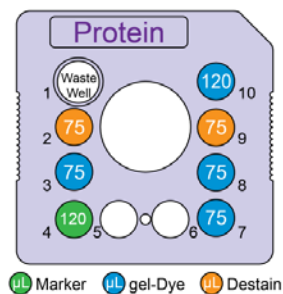
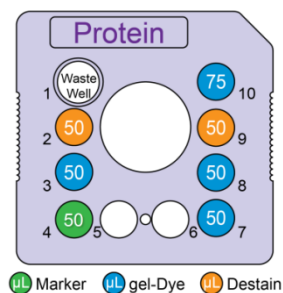

Figure 1. High-Throughput (HT)
Figure 2. Low-Throughput (LT)
- Using a reverse pipetting technique, add Destain Solution to chip wells 2 and 9 as shown in Figure 1 (HT) or Figure 2 (LT).
- Using a reverse pipetting technique, add Gel-Dye Solution from spin filter tube to chip wells 3, 7, 8, and 10 as shown in Figure 1 (HT) or Figure 2 (LT). Store any unused Gel-Dye Solution in the dark at 2-8°C for up to three weeks.
- Using a reverse pipetting technique, add 120 µL (HT) or 50 µL (LT) of Marker solution (green cap ●) to chip well 4 as shown in Figure 1 (HT) or Figure 2 (LT).